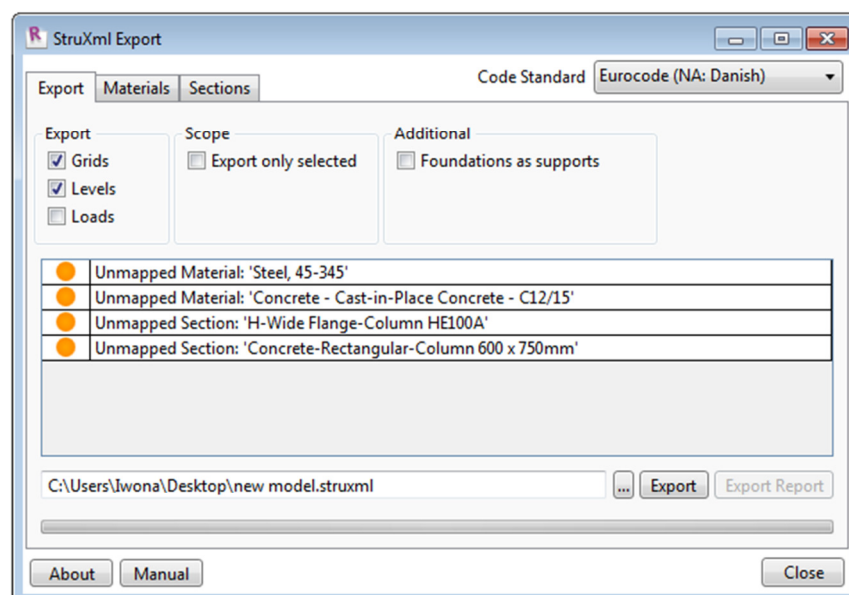

Figure II-36
2.1.2. After launching StruXML Export dialog there is a list of warnings about unmapped elements, as shown in Figure II-36.